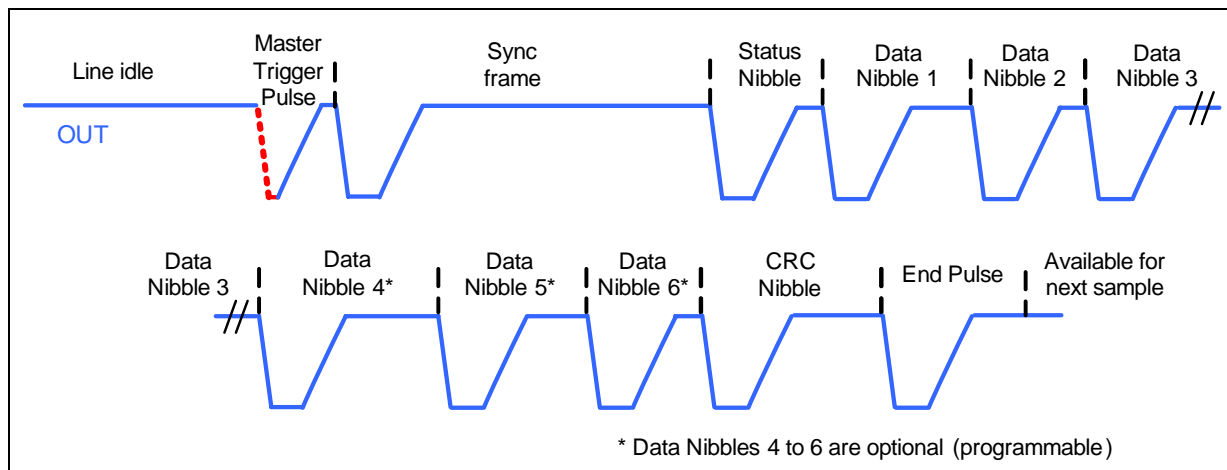

Figure 11 SPC Frame
As in SENT, the time between two consecutive falling edges defines the value of a four bit nibble, thus representing numbers between 0 and 15. The transmission time therefore depends on the transmitted data values. The single edge is defined by a 3 unit time (UT) low pulse on the output, followed by the high time defined in the protocol (nominal values, may vary by tolerance of internal RC oscillator, not including analog delay of the open drain output and influence by external circuitry, unit time programming see Section 12.2). All values are multiples of a unit time frame concept. A transfer consists of the following parts, depicted in Figure 11:
In the “synchronous” mode, the sensor (slave) starts to transfer a complete data frame only after a low pulse is forced by the master on the OUT pin. This means that the data line is bidirectional - an open drain output of the microcontroller (master) sends the trigger pulse. The sensor then initiates a sync pulse and starts to calculate the new output data value. After the synchronization period, the data follows in form of a standard SENT frame, starting with the status, data and CRC nibbles. At the end, an end pulse allows the CRC nibble decoding and indicates that the data line is idle again. The timing diagram in **Figure 11** visualizes a synchronous transmission.